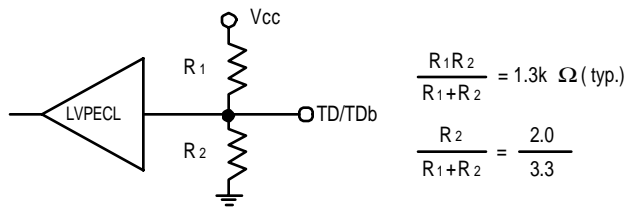

Figure 13. Internal Bias of Input Terminal
6. Input Terminal is biased internally, as shown in the figure13.